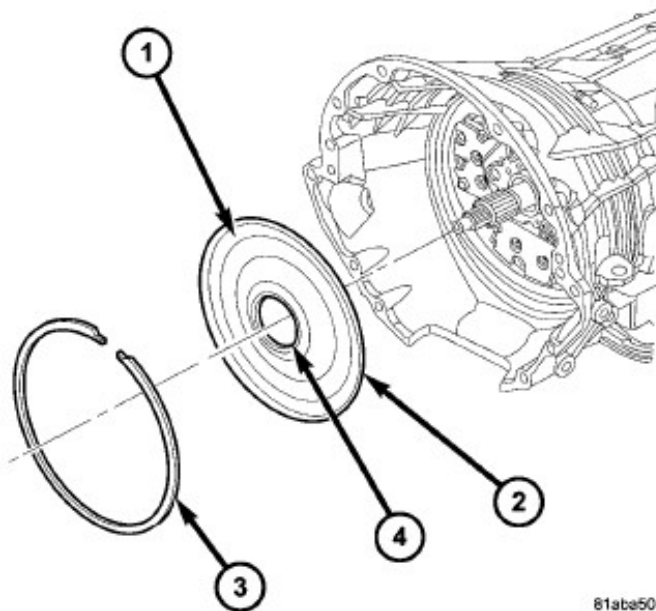

Fig. 24
46. Position the **NEW** front cover onto transmission case Fig. 24.
47. Using a dead-blow mallet and the front cover installation Tool 9555, install the front cover into the transmission case Fig. 24.
48. Install the snap ring into the transmission case Fig. 24.